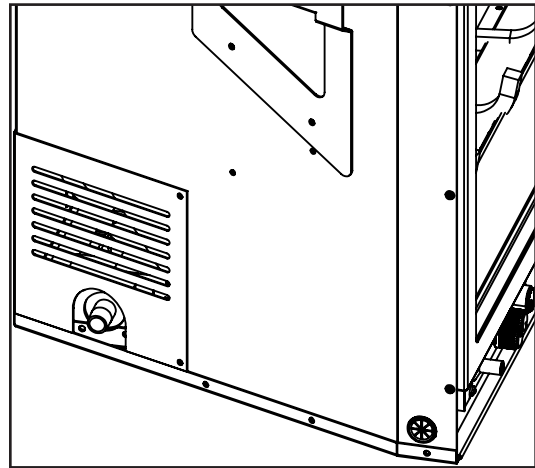

Figure 36: 3/8" NPT Male Pipe Nipple with Cover Attached.
- A 3/8" NPT male pipe nipple (supplied with the unit) will have to be turned into the valve at the lower left side rear of this fireplace (see Figures 36 and 37). Consult the local authorities for local codes or use the CAN/CGA B149 (1 or 2) installation code in Canada. In the US, gas installations follow either local codes or the current edition of the National Fuel Gas Code ANSI Z223.1.